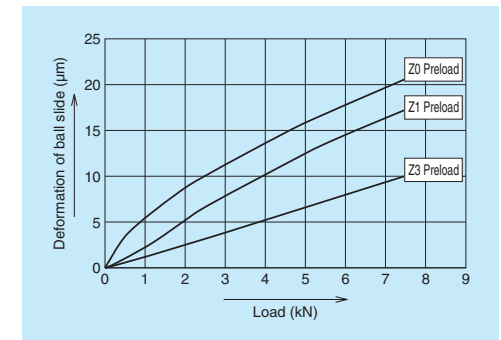

Fig. 3.3 Rigidity of NH35, downward direction load (example)
- Fig. 3.3 shows the relationship between ball slide deformation and external vertical load under a specified preload. NH35 is used as an example.